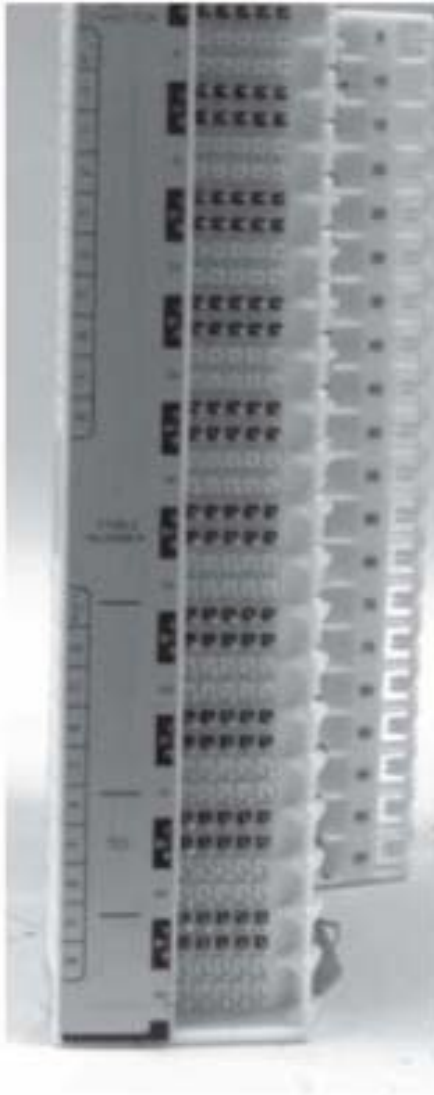

Figure 14
11.1 Space to mark the cable number and connector pair count are provided on the connector front, to the left of the CO jumper terminal field (Figure 14).